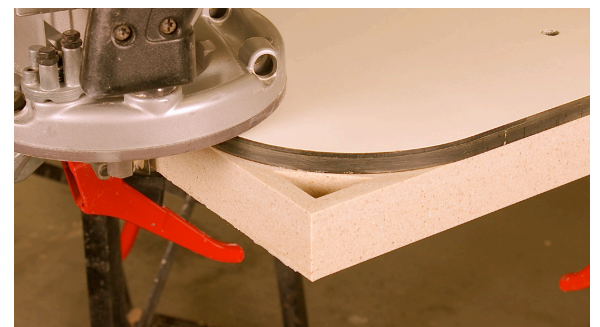

Figure 26C
- This method may be used up to 9" radius, requiring 1–3 strips placed on the angle. (FIG. 26C)